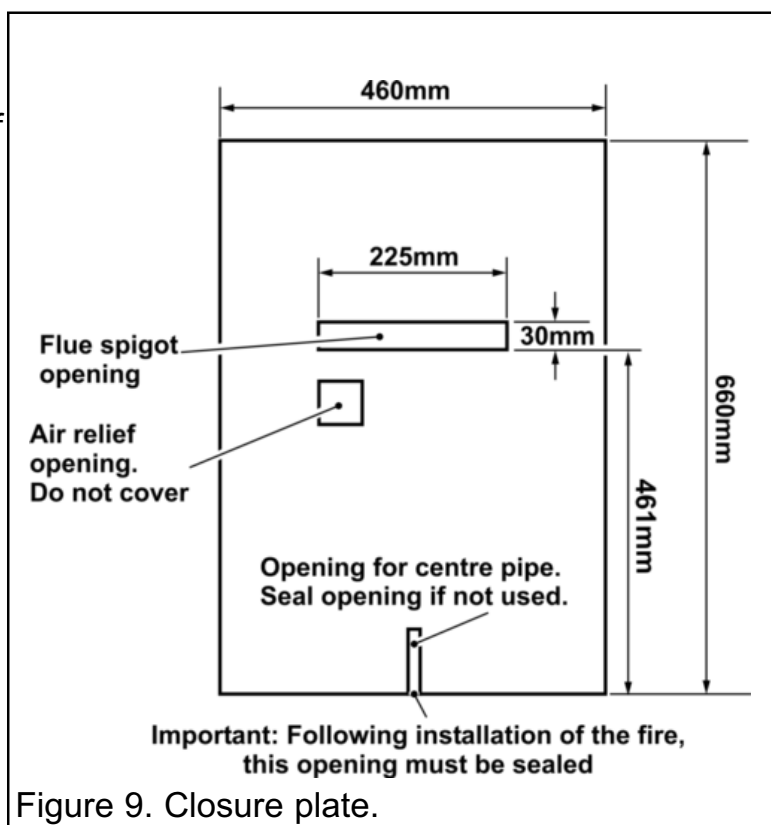

Figure 9. Closure plate.
- The spigot opening in the closure plate has two ‘flange’ sections. Fold along the perforated line of **Flange 1**. **Flange 2** is to be left as supplied. **The closure plate has an opening at the bottom for a central gas feed pipe. The gap between the pipe and this opening should be sealed with tape after connection. If a central feed pipe is not required the opening should be completely sealed with tape.** The dimensions of the closure plate will be as in figure 9.